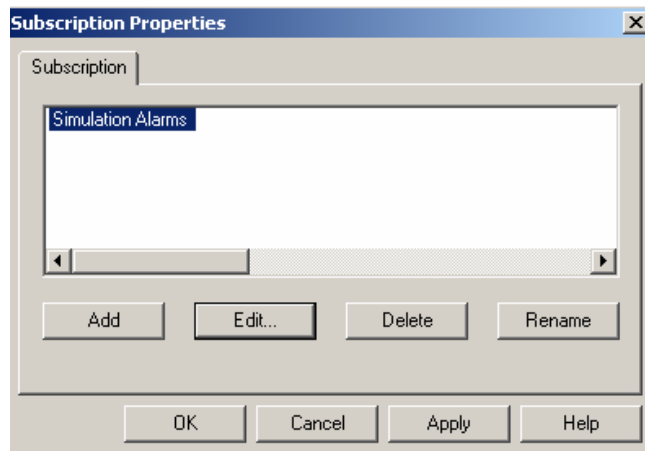

Figure A.43. Adding a New Subscription
4. Click on the **Subscribe/Edit** button. This opens a **Subscriptions Properties** window for defining the alarm subscription, as shown in **Figure A.43**.